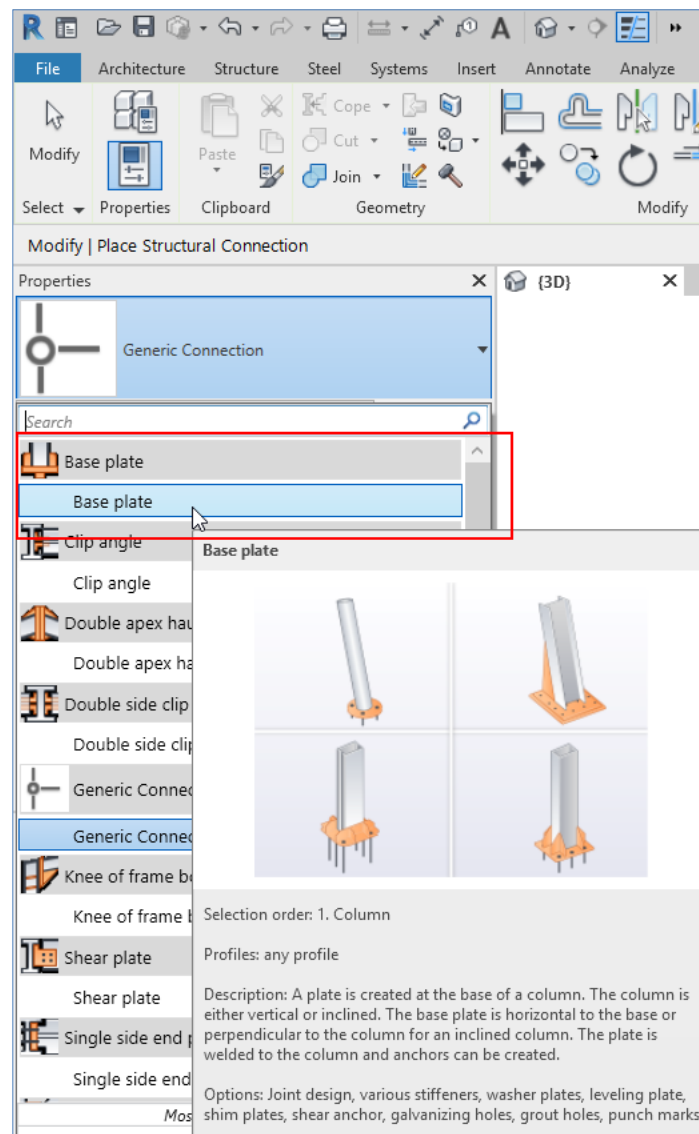

FIGURE 32: SELECTING THE **BASE PLATE** CONNECTION FOR THE COLUMN
2. From the **Properties** window, select **Generic Connection > Base Plate**, as shown in Figure 32.